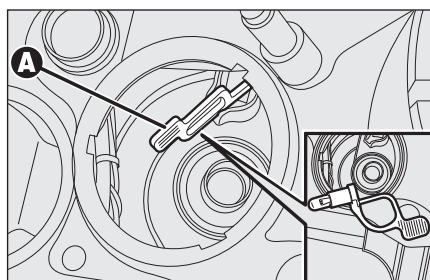

fig. 27
- ☐ press tab **A**-fig. 27, remove the bulb and replace it;